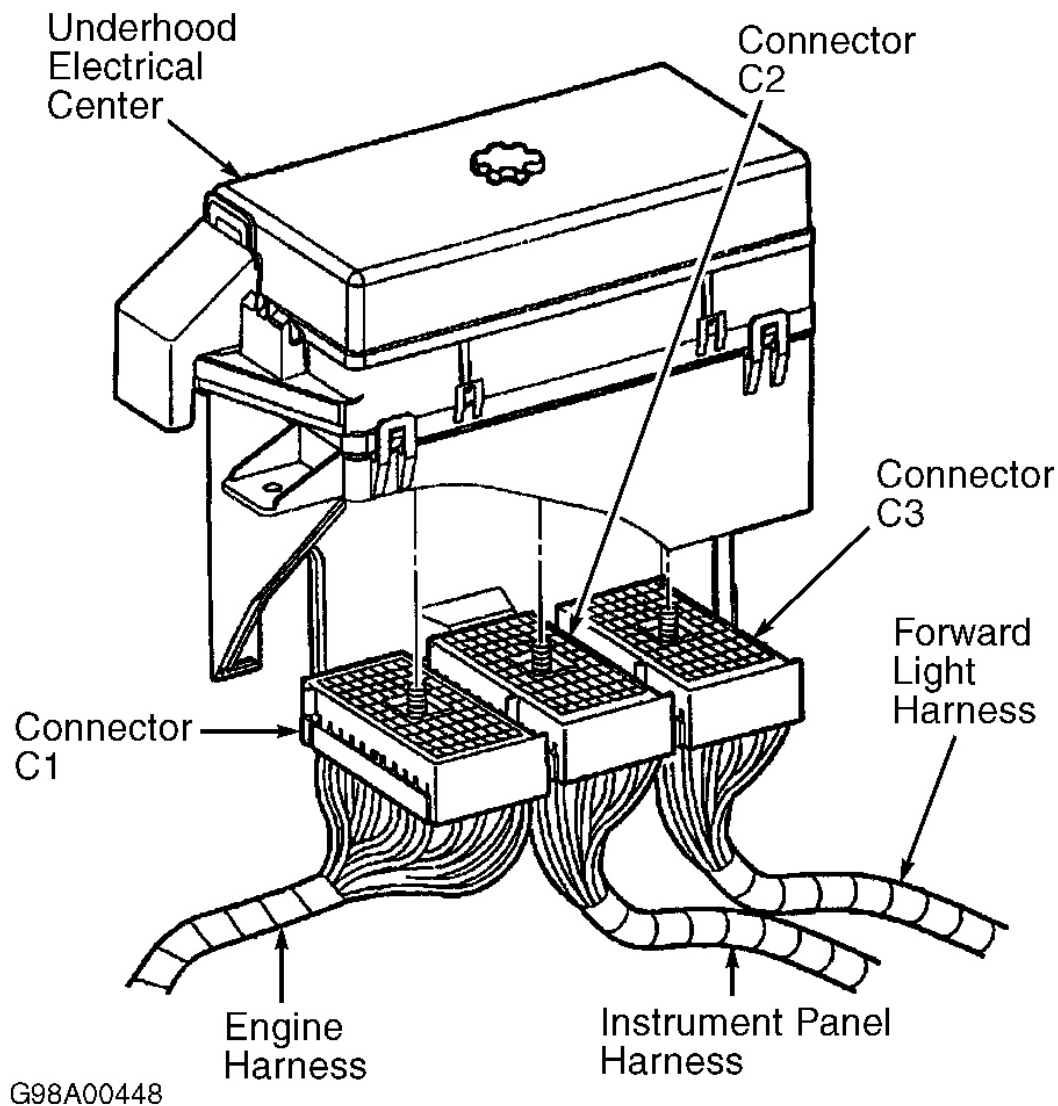

Fig. 1: Identifying Underhood Electrical Connectors
3. Reconnect engine coolant level indicator switch connector. Disconnect underhood electrical center connector C3. See **Fig. 1** . Move engine coolant level indicator switch to CLOSED position. Using DVOM, check resistance between underhood electrical center connector C3, terminal D9 (Yellow/Black wire) and ground. If resistance is less than 2 ohms, go to step 5). If resistance is not less than 2 ohms, go to next step.
3. Reconnect windshield wiper solvent level indicator switch connector. Disconnect underhood electrical center connector C3. See **Fig. 1** . Move windshield wiper solvent level indicator switch to CLOSED position. Using DVOM, check resistance between underhood electrical center connector C3, terminal C9 (Black/White wire) and ground. If resistance is less than 2 ohms, go to step 5). If resistance is not less than 2 ohms, go to next step.